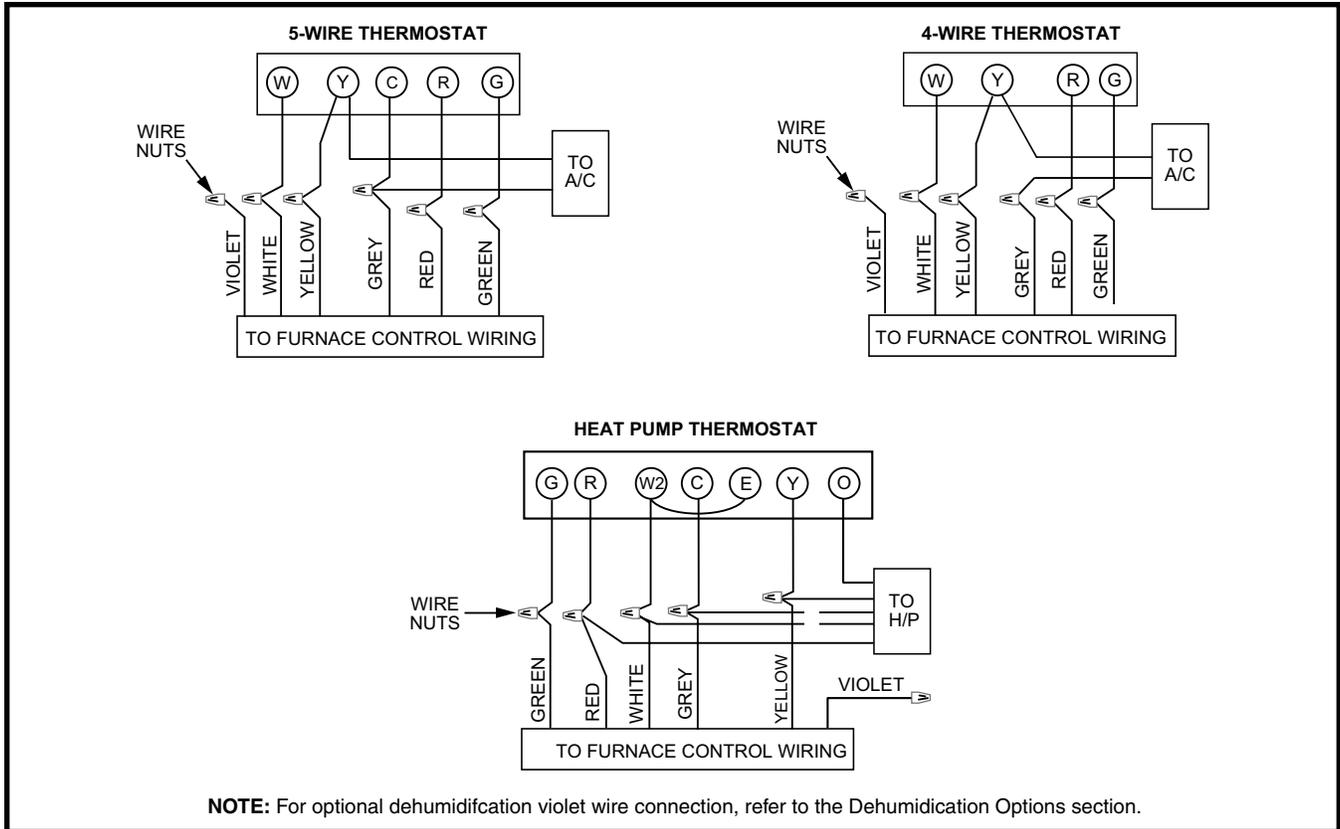

Figure 20. E7 Thermostat Connection
- The thermostat should be mounted about 5 feet above the floor on an inside wall. DO NOT install the thermostat on an outside wall or any other location where its operation may be adversely affected by radiant heat from fireplaces, sunlight, or lighting fixtures, and convective heat from warm air registers or electrical appliances. Refer to the thermostat manufacturer's instruction sheet for detailed mounting information. See Figure 20 \(page 16\) for typical thermostat connections.
NOTE: Installation of at least a four-wire thermostat circuit is required with five-wire circuit recommended for future addition of a heat/cool thermostat. Any unused thermostat leads must be properly capped. See Figure 20 \(page 16\) for various thermostat connections.